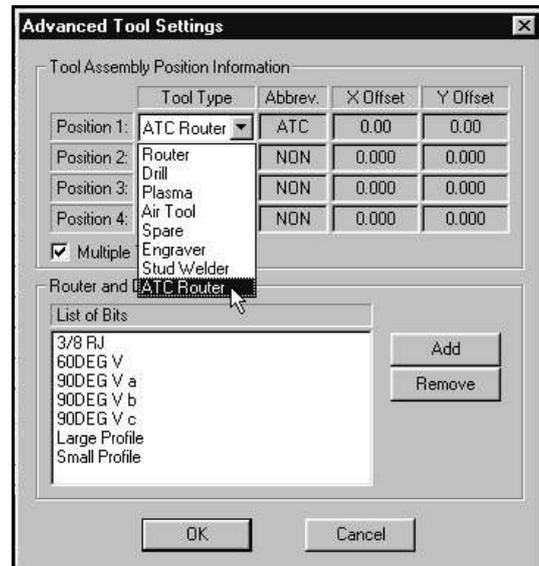

Fig 2.
- To activate Multiple Tools check the Multiple Tool Mode check box. (refer Fig 2.)
- To activate the ATC unit change the **Tool Type** from Router to ATC Router in position 1 on the Advanced Tool Settings dialogue (refer Fig 2.).